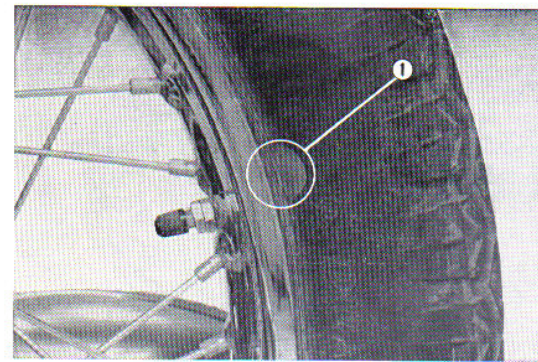

Fig. 4.88
① Balance mark
2. When the tire is replaced, the balance mark of the tire (yellow) and the tube stem valve must be matched (Fig. 4.88). Rebalancing must be performed.